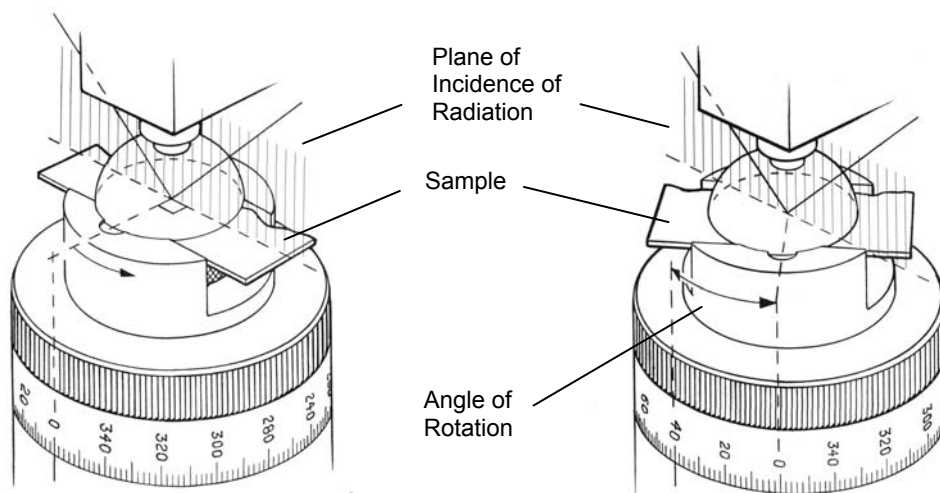

Figure 20 • Ming-Sung™ Operation
- Place the sample on the pressure plate in such a way that the straight edge (reference edge) of the sample lines up with either the front or back edge of the sample slot (Figure 20).